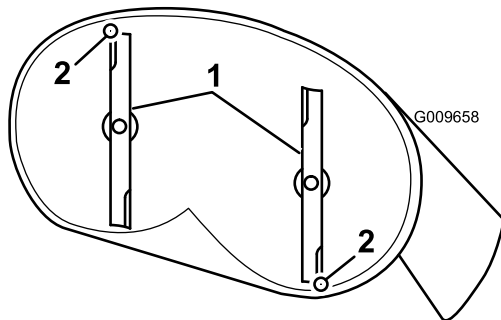
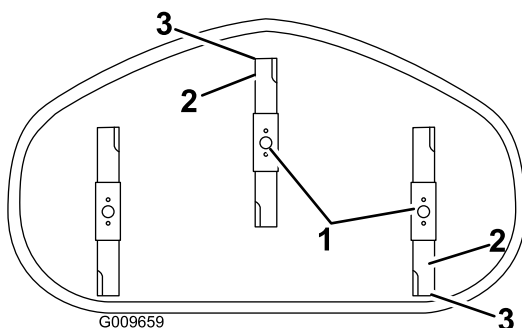

Figure 58
Figure 59
3. Carefully rotate the blades so they are facing front to rear (Figure 58 and Figure 59).
4. Measure from the tip of the front blade to the flat surface and the tip of the rear blade to the flat surface (Figure 58 and Figure 59). If the front blade tip is not 1/16-5/16 inch (1.6-7.9 mm) lower than the rear blade tip, adjust the front locknut.
7. After adjustment, check the front-to-rear slope again. Continue adjusting the nut until the front blade tip is 1/16-5/16 inch (1.6-7.9 mm) lower than the rear blade tip (Figure 58 and Figure 59).